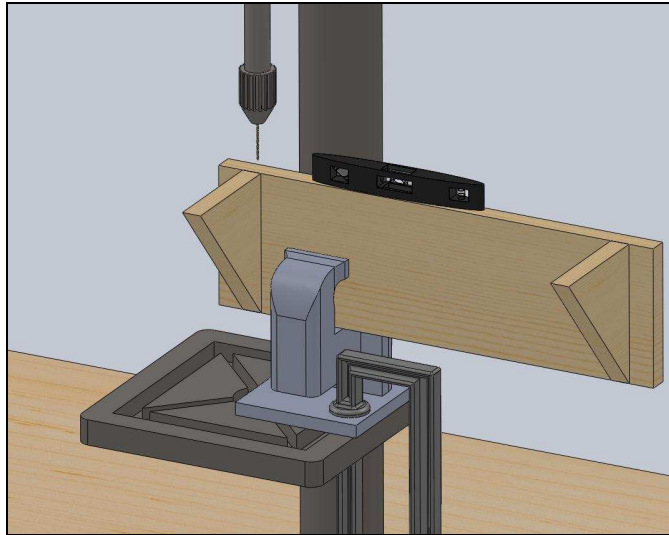

Figure 16: Following method of Step 10, pilot holes are drilled in the bottom assembly
- A. Using the same method described in Step 10, drill all six pilot holes in the bottom assembly. See Figure 16.